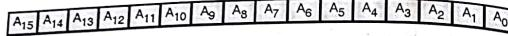

Fig. 17.5.2 : Current address register
- In autoinitialization mode, it is initialized automatically with original address after EOP signal. The current address register format is as shown in Fig. 17.5.2.